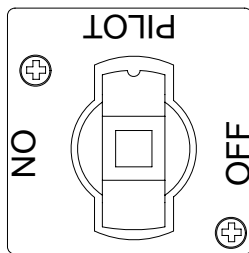

Figure 1
2. Rotate the gas valve knob to the PILOT position (see Figure 1).